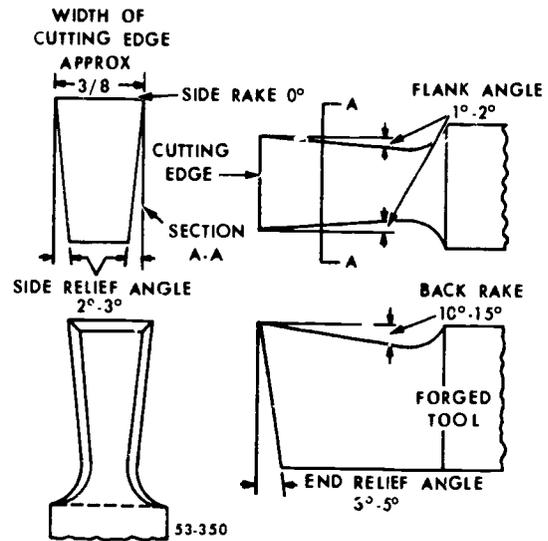
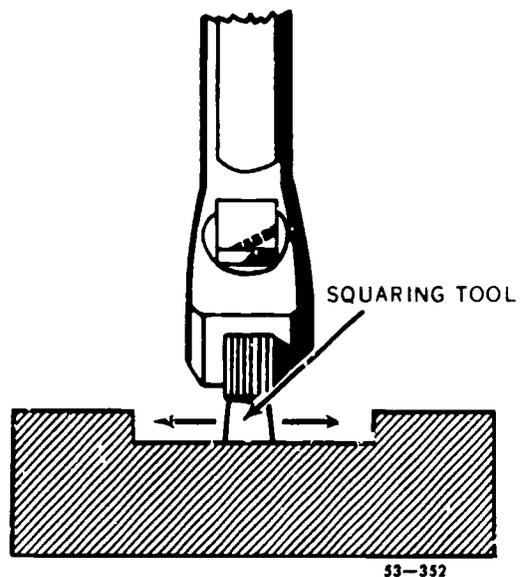

Figure 31 Squaring tool angles.
Figure 32. Squaring tool.
e. Squaring. The *squaring tool*, shown in figure 31, has sharp corners on the ends of the cutting edge which allow it to produce 90° corners. You use it primarily to finish the bottom and sides of shoulders, keyways, and grooves, as shown in figure 32.